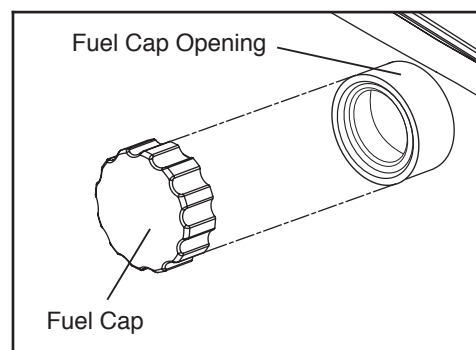

Figure 13. Reinstall Fuel Cap
4. Reinstall Fuel Cap (See Figure 13).